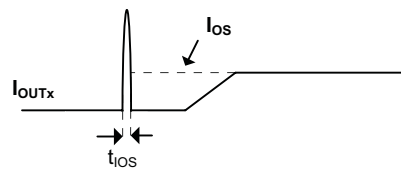

Figure 3. Response Time to Short Circuit Waveform
| $t_{IOS}$                                            | Response time to short circuit                                                                                                                | $V_{IN} = 5.0$ V (see Figure 3)                     |                                                      | 3.5 (3) |      | μs   |     |
The second condition is when a short circuit, partial short circuit, or transient overload occurs while the device is enabled and powered on. The device responds to the overcurrent condition within time  $t_{IOS}$  (see Figure 3). The current-sense amplifier is overdriven during this time and momentarily disables the internal current-limit MOSFET. The current-sense amplifier recovers and ramps the output current to  $I_{OS}$ . Similar to the previous case, the TPS2561-Q1 device limits the current to  $I_{OS}$  until the overload condition is removed or the device begins to thermal cycle.